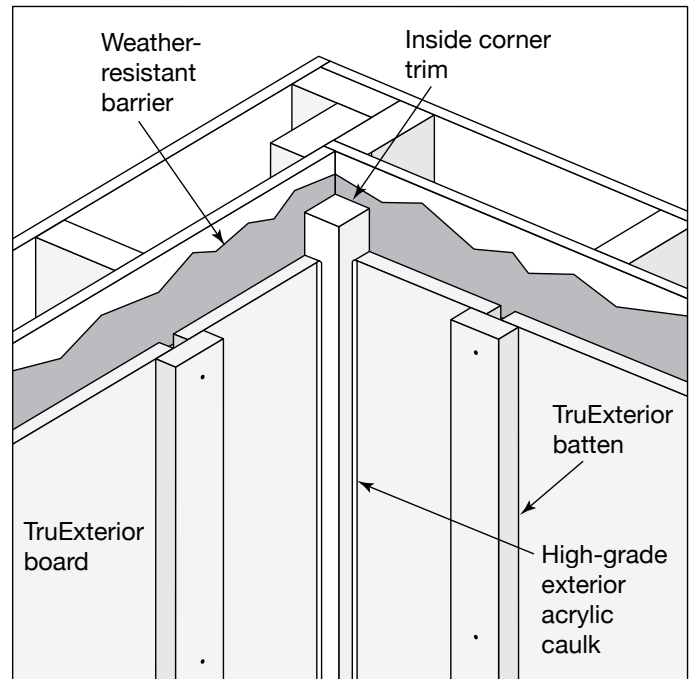

Fig. 8
- When creating inside corners, install 2"x2" trim into the corner with an approved fastener (**Fig. 8**).
- Butt the board up to the corner trim and secure in place (**Fig. 8**).
- Seal the joint between the corner trim and the siding with high-grade, exterior acrylic caulk (**Fig. 8**).